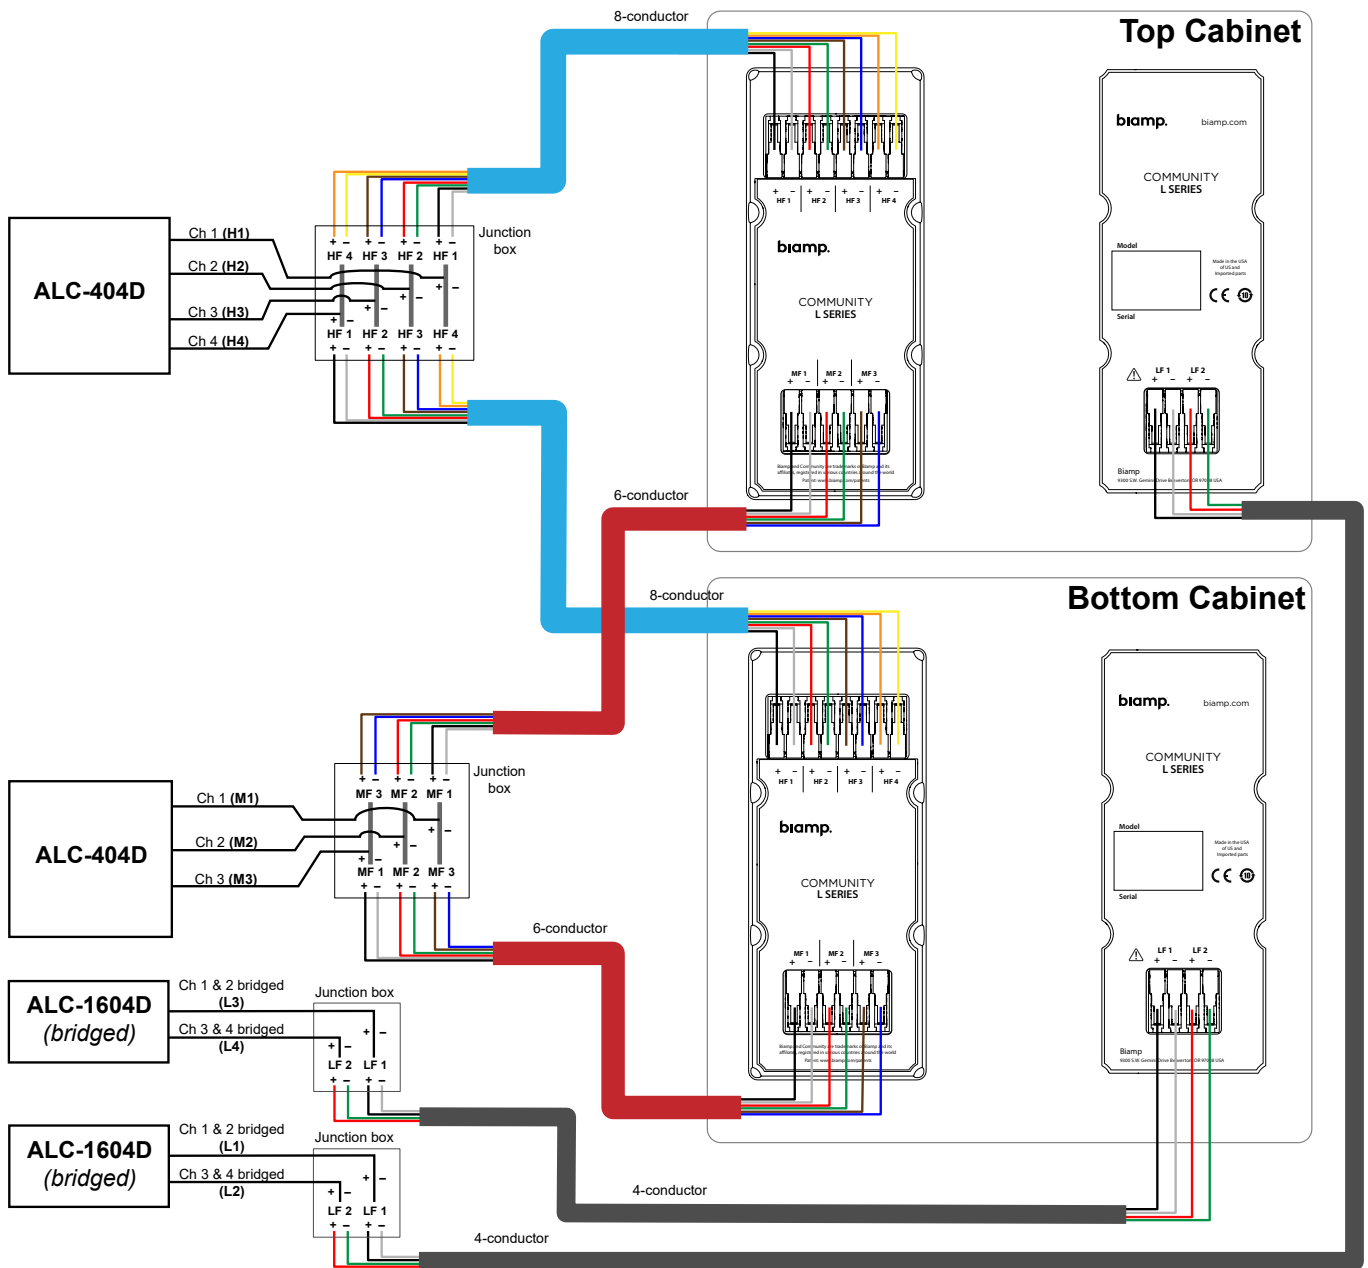

Figure 8. Wiring for LVH-900/AP Input Panels
2. The HF and MF inputs **MUST** be wired to the same ALC channel as noted in the image below. (Figure 8)